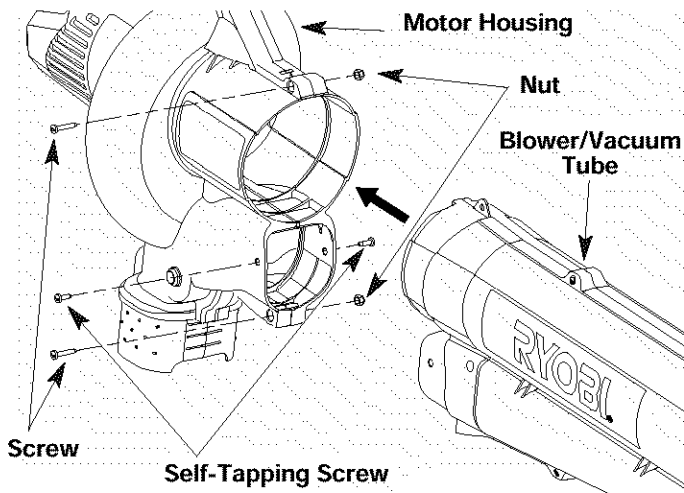

Fig. 1
2. Insert the blower/vacuum tube all the way into the opening on the motor housing until the holes in the tabs on the blower/vacuum tube align with the screw holes in the housing (Fig. 1).
3. Insert the 2 (two) 8-32 x 3/4" slotted T20 Torx screws into the right side of the motor housing and the 2 (two) nuts into the left side of the motor housing (Fig. 1).
5. Install the 2 (two) remaining self-tapping 8-16 x 3/4" slotted T20 Torx screws into the holes on either side of the housing (Fig. 1). Tighten until snug, do not over-tighten.